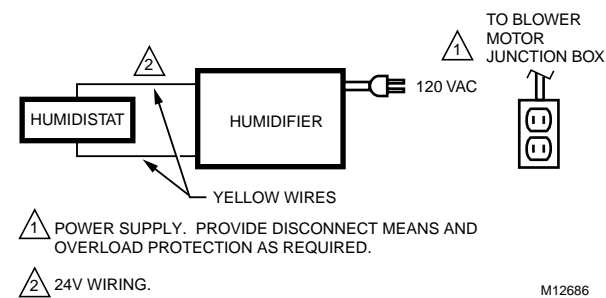

Fig. 4. Typical hookup diagram for humidifier using the fan control to cycle the blower motor fan and humidifier simultaneously.
1. Wire the humidifier solenoid valve, current sensing relay or sail switch, and humidistat. See Fig. 4, 5 and 6. Refer to humidistat installation instructions for mounting and wiring information.